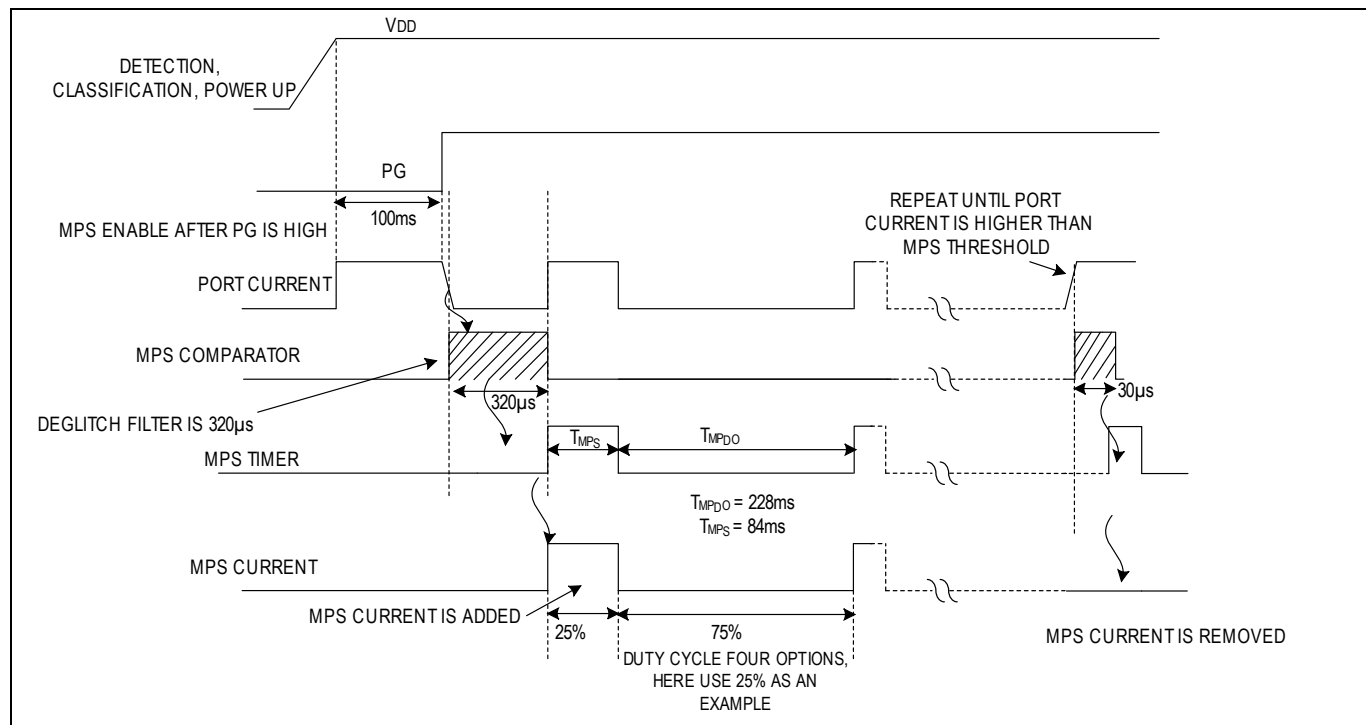

Figure 3. Intelligent MPS Behavior
*Figure 3* shows intelligent MPS behavior. The MPS comparator is an autozero comparator and it will sample the port current every  $32\mu\text{s}$ . The MPS comparator is always switched on when the MOSFET is fully turned on. If the MPS comparator falling threshold is triggered continuously within  $320\mu\text{s}$ , the part enters MPS mode and the MPS current is generated. Once the part enters MPS mode it waits for the TMPS timer to elapse before checking the MPS comparator again.
In MPS mode, the Intelligent MPS modulation scheme is shown in *Figure 3* (MPS Duty Cycle is 25% or 84ms), and the LED driver output (LED) sources periodic current pulses at 250Hz with 25% duty cycle and current amplitude can be configured by a resistor ( $R_{SL}$ ) on SL pin. PG remains high to enable downstream dc-dc converter in MPS mode. Once MPS mode is entered, sleep mode or Ultra-Low-Power sleep mode will not take effect (MAX5996B).